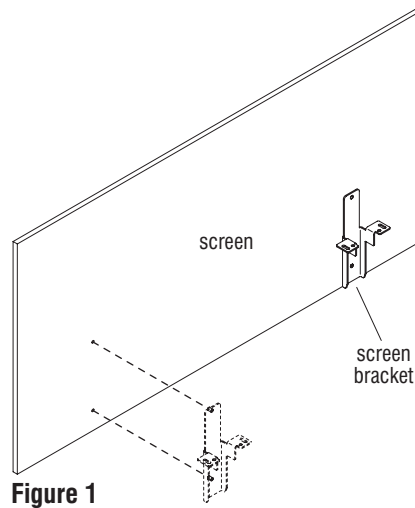

Figure 1
2. For ease of installation, screen bracket standoffs should be pre-pressed into the screens to widen the mounting holes. This will make it less difficult when installing the screens onto brackets that will be mounted to the tabletop. Align the screen bracket standoffs with the mounting holes on the screen and press fit. Remove the bracket. Repeat this process to widen the other bracket mounting hole locations on the screens (Figure 1 & Details A & B).